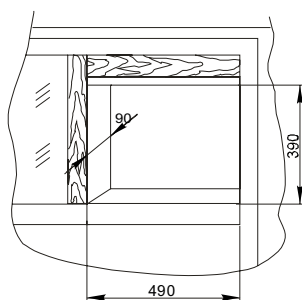
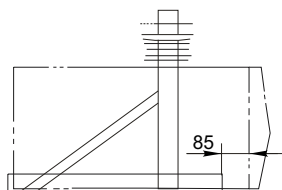

Fig.1
Fig.2
- A wooden frame as shown in fig.1 is advisable if the appliance is installed through a window. The installation bracket as shown in fig.2 should not be welded with the window sash.